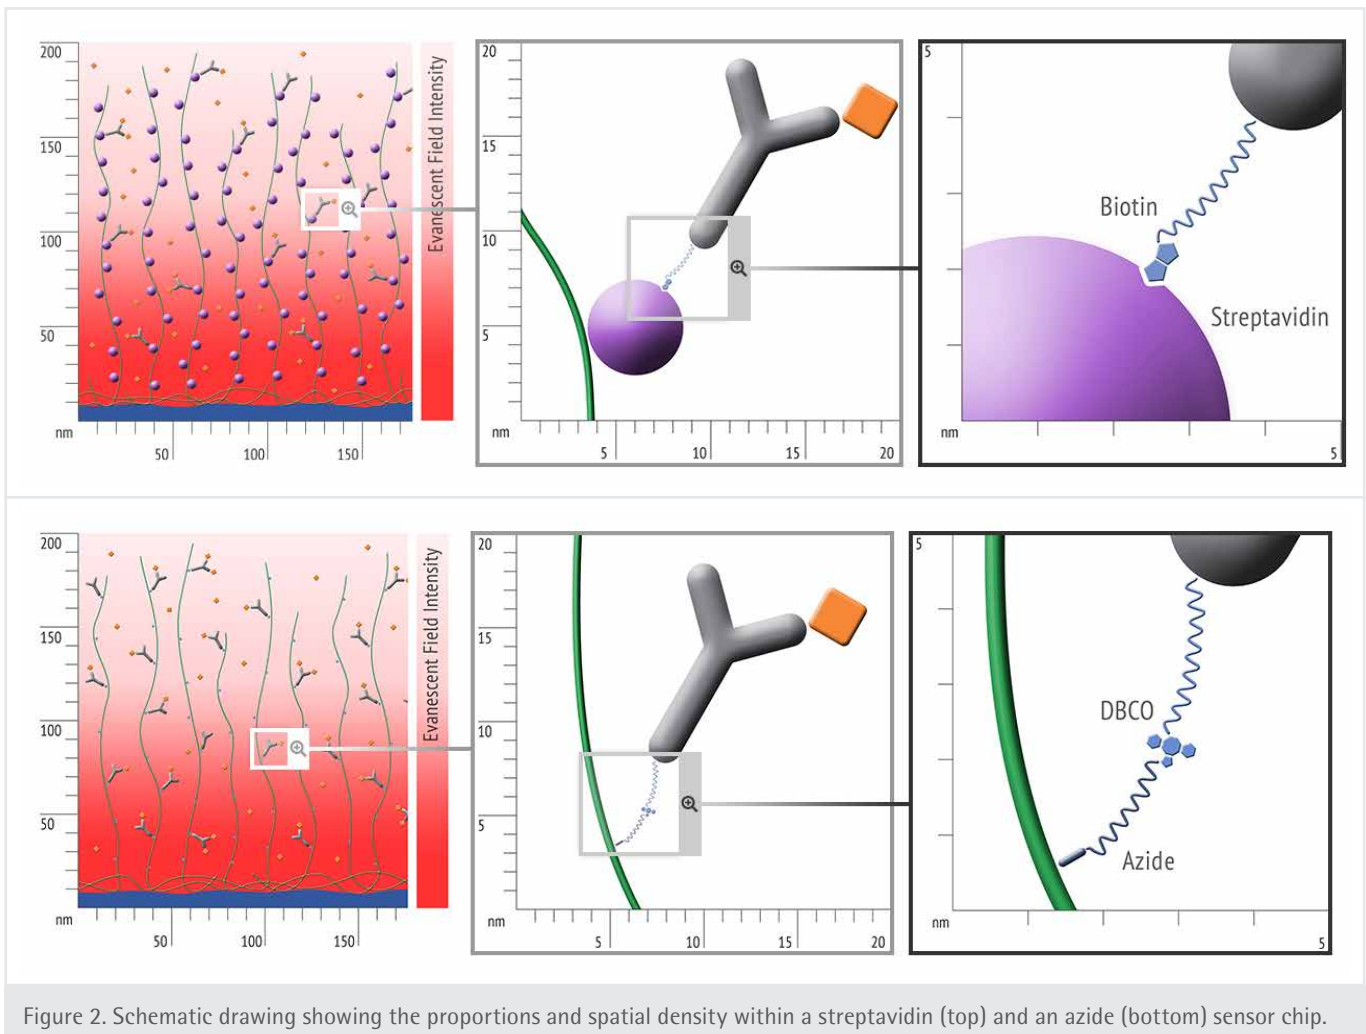

Figure 2. Schematic drawing showing the proportions and spatial density within a streptavidin (top) and an azide (bottom) sensor chip.
- Higher sensitivity and lower diffusion artefacts compared with streptavidin-modified sensor chips due to small linker size [Fig. 2].